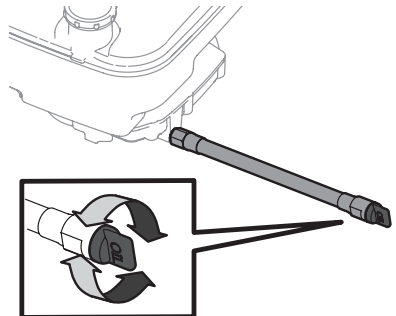

Fig. 37
5. After the oil has finished draining, screw the cap back onto the end of the oil drain hose (Fig. 37).